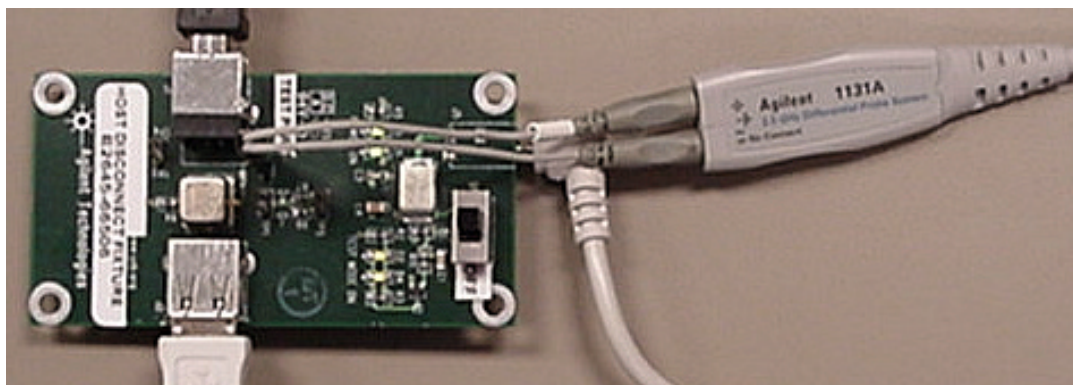

Figure 18: Differential Probe Connection on Host Disconnect Test Fixture
2. Attach the differential probe to TP2, using the header adapter(Figure 18).